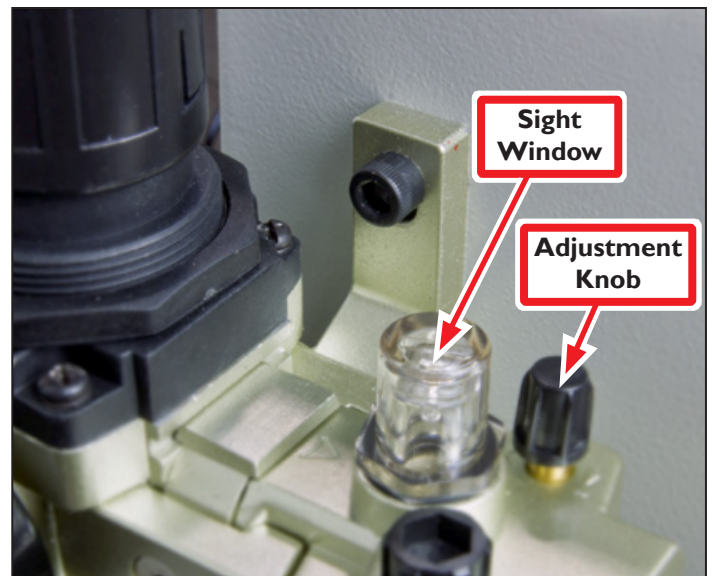

Figure 3
NOTE: Proper function is confirmed visually through the Sight Window on the top of the FRL (see **Figure 3**). A droplet of lubricant will form on the bottom of the stem located inside of the Sight Window.
1. Open lubrication Adjustment Knob 1/2 turn (toward the +) as shown in **Figure 3**.